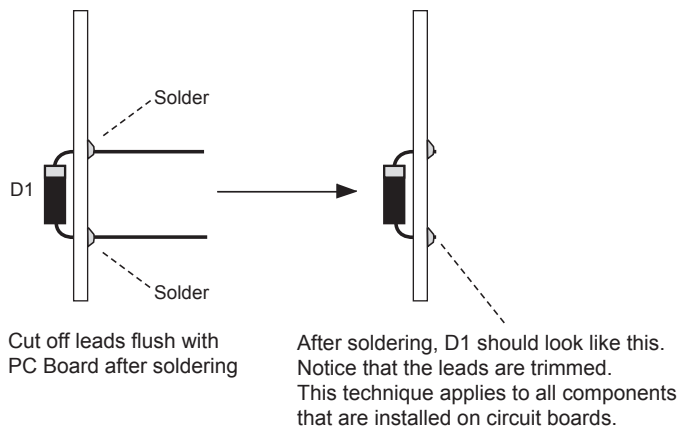

Figure 6a
6. Install metal legs by first turning board over so that the foil side is up. Now lay metal piece with hole on top of pad as shown in Figure 6a and solder. Repeat for the other leg. After solder cools, carefully bend metal legs over in front of robot as shown (see Figure 6b).